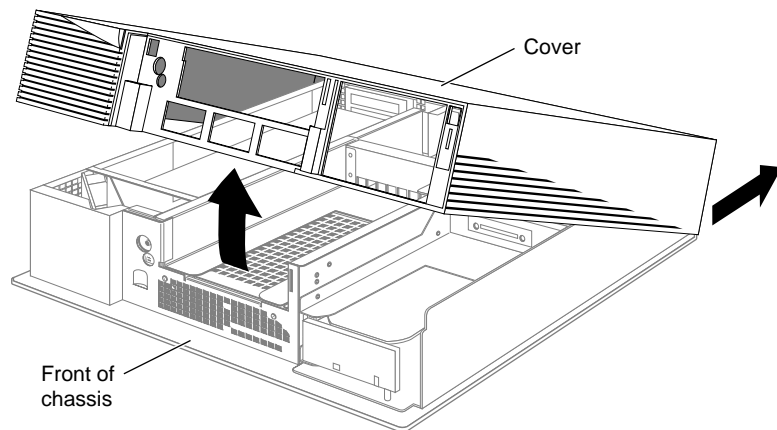

Figure 2-6 Removing the Cover
- Pull up on the cover and rotate it back and away from the chassis (Figure 2-6).